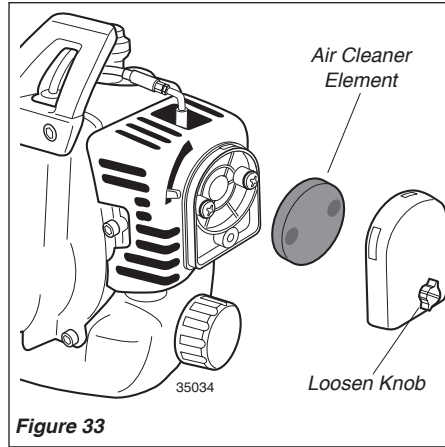

Figure 33
- Remove the air cleaner element from the carburetor and clean it thoroughly with soap and water. Let dry before reinstalling the element. See Figure 33.